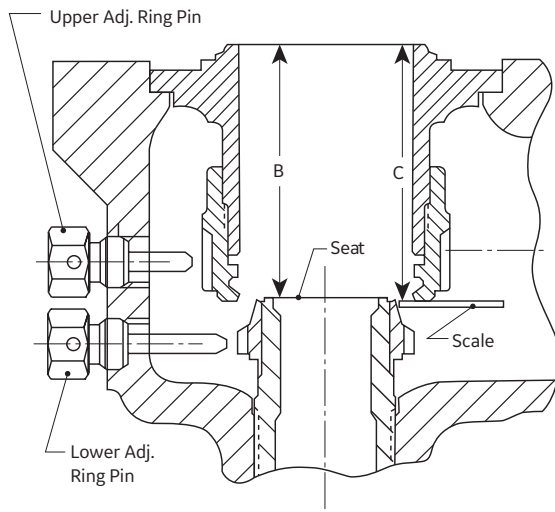
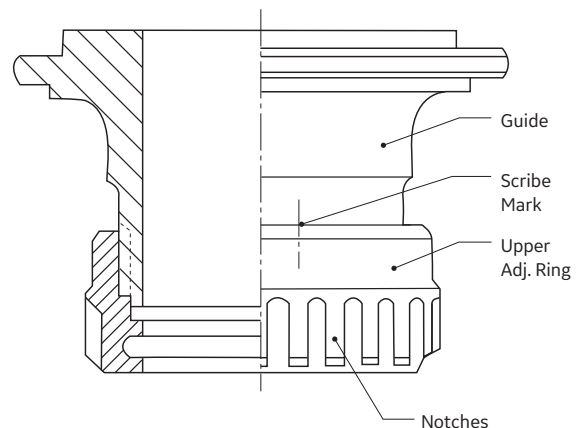

Figure 29: Guide - Bushing Seat Assembly
Figure 30: Upper Adj. Ring - Guide Assembly
- Install the adjusting ring and guide assembly into the valve base such that the scribe marks will be visible from the valve outlet or an inspection port. Place a scale or other suitable thin flat metal object on the lower face of the upper adjusting ring and measure the overall length of the upper ring and guide assembly. Adjust the upper ring to the Dimension C (See Figure 29) recorded in Step 12 of Section XII.B., "Disassembly". Observe the marks made on the ring and guide and adjust the ring to align the marks (see Figure 30.) Recheck the overall length of the adjusting ring and guide assembly to assure that the